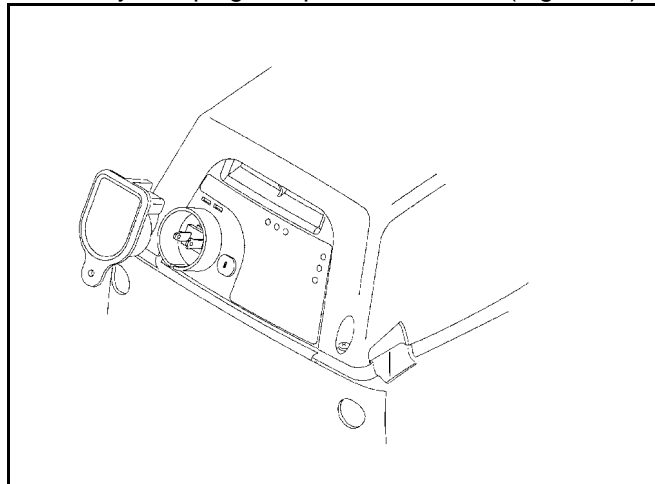

Figure 14
2. If key is in plug receptacle, remove it (Figure 14).